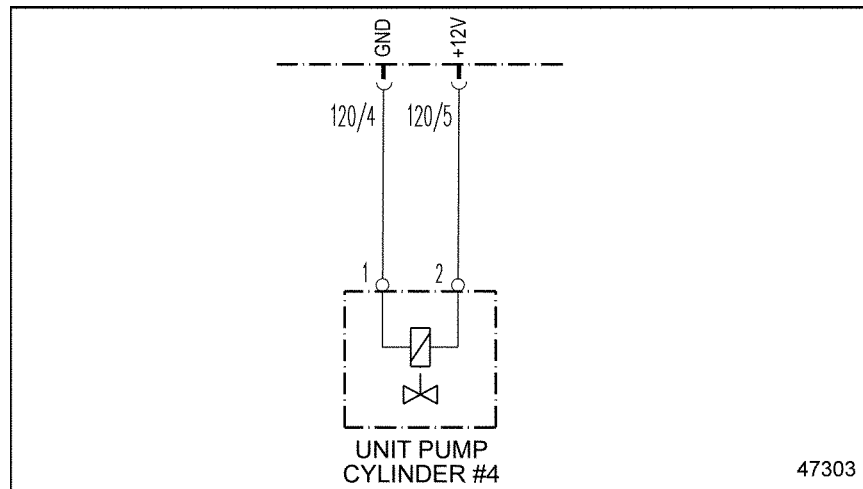

Figure 48-2 Electronic Unit Pump #4
3. Disconnect pins 1 and 2 of Electronic Unit Pump #4. See Figure 48-2.